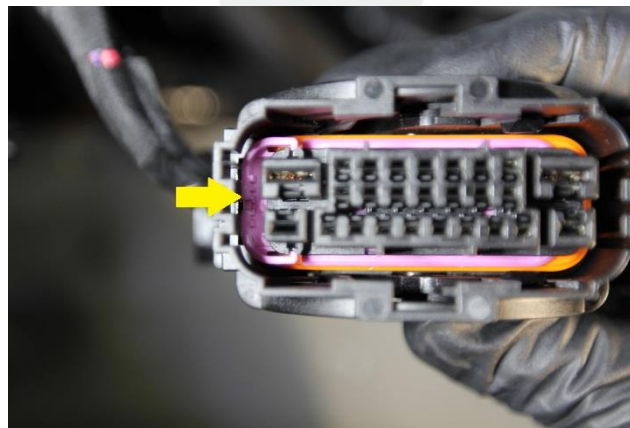

Figure 36 – Pin 9 shown, pin 1 similar
10. Engage the terminal secondary locking mechanism for the connector at pin 9 using a small flat head screwdriver (Figure 36).